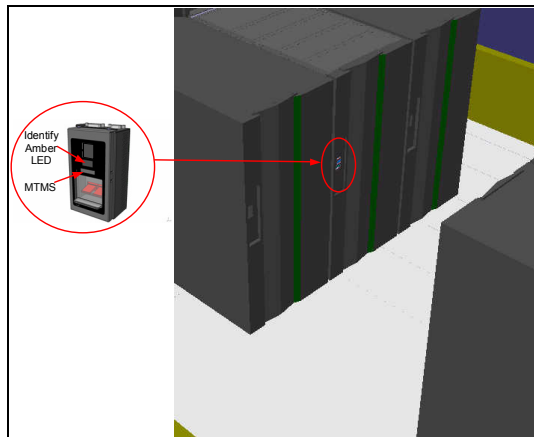

Figure 5 UEPO Identify LED location
- STEP 6 Locate the frame. The UEPO Identify Amber Led (see Figure 5) should be flashing. If the LEDs are not flashing, verify the FRU via MTMS (machine type model serial number). The rack level MTMS is located on the face of the UEPO (see Figure 5). Open the front and rear door of the frame.